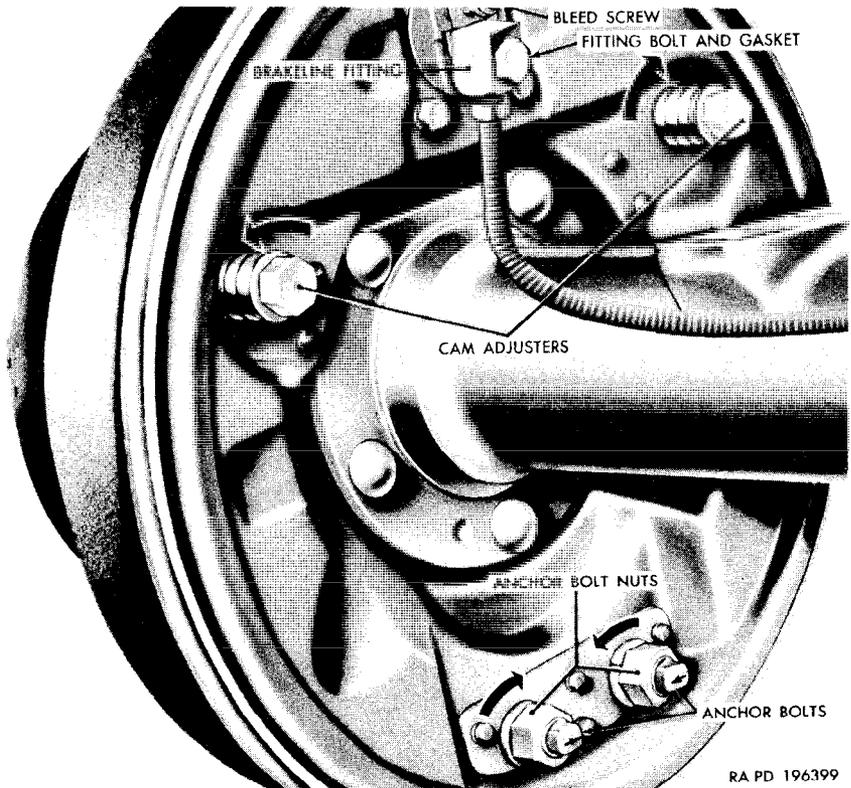

Figure 181. Brakeshoe cam adjusters and anchor bolts.
- (2) Jack up the wheel of the brake to be adjusted until the tire is off the floor and block the other wheels.
- (3) Turn one brakeshoe cam adjuster in the direction shown in figure 181 to decrease the clearance between the lining and the drum. Rotate the wheel and turn the cam adjuster until a noticeable drag is felt. Repeat this operation on the other cam adjuster.
- (4) Repeat operation (3) above on both brakeshoe cam adjusters of the other three wheels.
- (2) Connect the filler hose to the top of the tank. Close the filler hose shutoff cock.
- (3) Connect a compressed air hose to the air valve in the top of the tank and charge the tank to a minimum of 25 psi as indicated on the pressure gage.
- (4) Insert the end of the filler hose in the master cylinder filler opening, and open the filler hose shutoff cock just enough to fill the master cylinder to the top. Close the filler hose shutoff cock.
- (5) Remove the filler hose from the master cylinder and install the proper adapter in the filler opening. Connect the filler hose to the adapter in the master cylinder.
- (6) Before tightening the hose connection in the adapter, open the filler hose shutoff cock slightly. When the fluid flowing from the loose connection is free from air bubbles close the filler hose shutoff cock. Tighten the connection and open the filler hose shutoff cock fully. Note the reading on the pressure gage. The gage reading should be maintained at approximately 25 psi.
- (7) Attach bleeder hose to the bleeder screw (fig. 181) of the right rear wheel cylinder. Submerge the free end of the bleeder hose in a glass receptacle containing a small amount of brake fluid. Open the bleeder screw and allow fluid to flow into the receptacle until the fluid is entirely free from air bubbles. Close the bleeder screw and remove the bleeder hose.
- (8) Bleed the left rear, right front, and left front wheel cylinders in that order, following the procedure in (7) above. When the left front wheel cylinder has been bled and while the bleeder hose is still attached to the bleeder screw (screw open), close the filler hose shutoff cock and remove the hose from the adapter in the master cylinder. Depress the brake pedal and hold it down while closing the bleeder screw at the
- (1) Fill the master cylinder as in paragraph 215b(1), (2), and (3).
- (2) Connect the bleeder hose to the bleeder screw (fig. 181) at the right rear wheel cylinder. Submerge the free end of the bleeder hose in a glass receptacle containing a small amount of brake fluid. Open the bleeder screw.
- (3) Depress the brake pedal slowly about halfway and allow the pedal to return to the released position. Refill the master cylinder, as necessary, to maintain the fluid level. Repeat this procedure until the fluid flowing from the bleeder hose is clear and free from bubbles.
- (4) Close the bleeder screw and remove the bleeder hose.
- (5) Bleed the left rear, right front, and left front wheel cylinders in that order, following the procedure in (3) and (4) above for each wheel.
- (6) Fill the master cylinder, if necessary, to bring the fluid level to three-fourths of an inch below the top of the filler plug opening.
- (7) Install the filler plug.
- (8) Install the master cylinder access cover and turn the two studs 90° clockwise.
- (1) Place the vehicle on a level floor, release the handbrake, place the transmission gearshift lever in neutral and disengage the front axle.
- (2) Jack up one of the wheels and block the other wheels to prevent the vehicle from rolling off the jack. Remove the wheel and tire.
- (3) Remove the screw that secures the drum inspection hole cover and remove the cover.
- (4) Loosen the anchor bolt nuts (fig. 181) and turn both anchor bolts to the fully released position (flats on the same horizontal plane and the arrows or punch marks toward each other).
- (5) Rotate the drum until the inspection hole is opposite the top (toe) of the front shoe and note the clearance between the lining and the drum.
- (6) Rotate the drum until the inspection hole is opposite the bottom (heel) of the front shoe and note the clearance at this point.
- (7) Adjust the cam adjuster and the anchor bolt alternately in the directions indicated in figure 181 until clearance is equalized at toe and heel and the center of the lining is in contact with the drum, resulting in a decided drag at this point.
- (8) Hold the anchor bolt and tighten the anchor bolt nuts to 90-110 pound-feet torque after completing the adjustment.
- (9) Adjust the rear shoe in the same manner ((5) through (8) above). Position the inspection hole cover and install the $\frac{1}{4}$ -20NC x $\frac{3}{8}$ tapping screw. Install the wheel and tire (par. 227b), and remove the jack and blocking.
- (10) Adjust the other three brakes in the same manner.
- (1) Perform the preliminary operations as in b(1) through (4) above.
- (2) Turn the cam adjusters so that a 0.006-inch feeler gage is a snug fit between the upper end (toe) of each brakeshoe lining and drum.